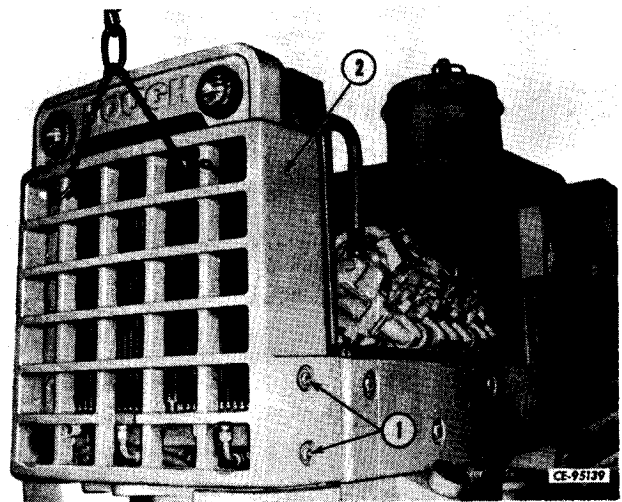

Figure 2-8
With a suitable hoist attached, remove cap screws (1, Fig. 2-8) on each side of the grille and lower grille (2) to floor.